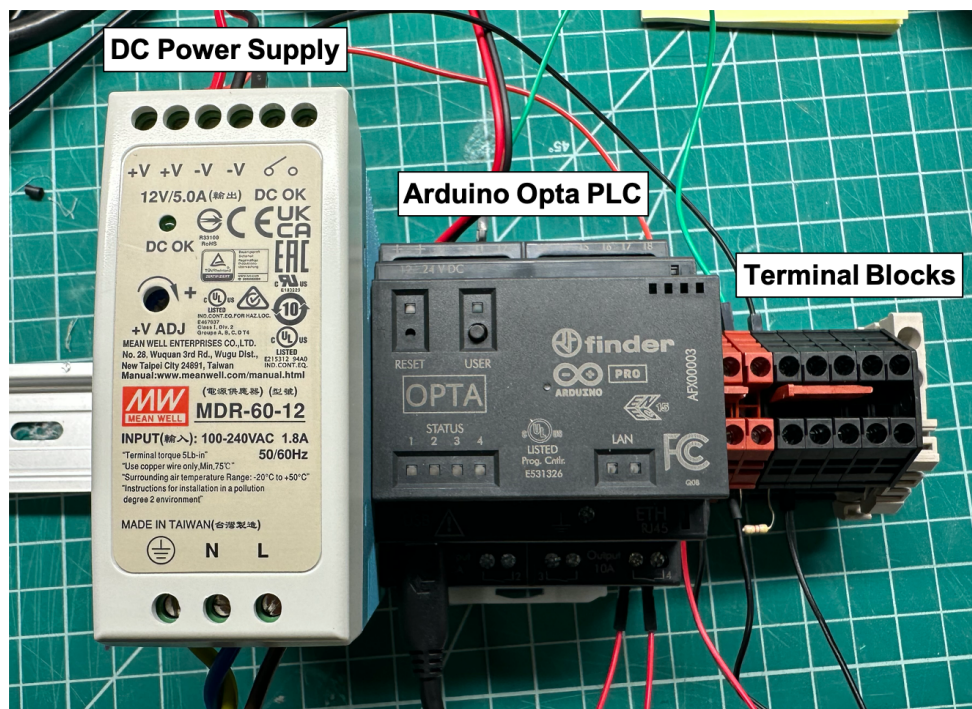

Figure 1 – A DC power supply, Arduino Opta PLC, and terminal blocks are mounted to a DIN rail and used to regulate the temperature of a heated sample.
Shown in Fig. 1 below is a photo of a DC power supply, PLC, and terminal blocks mounted to a DIN rail. In this lab, you will construct the set-up pictured below and use it to make a thermostat. The PLC thermostat will use a thermistor to sense when a heated sample warms up to a desired high temperature set-point T_{HS} , then switch on a fan to cool the sample down to a low set-point temperature T_{LS} , at which the fans will be switched off.
1. Mount the 12V DC power supply and Opta PLC to the DIN rail, as pictured in Fig. 1.